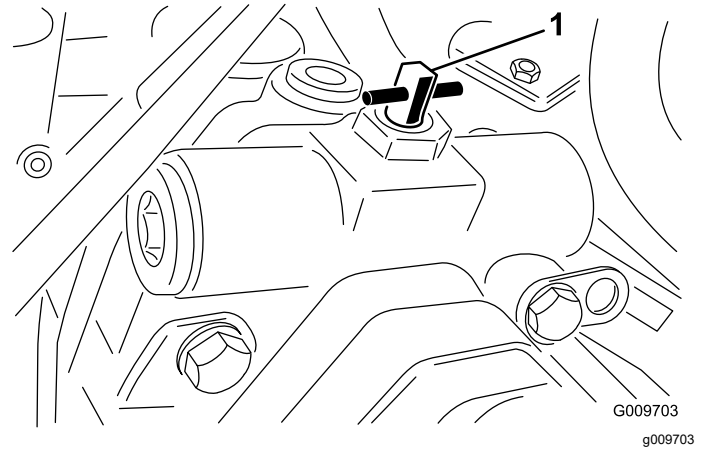

Figure 40
2. Rotate the bypass valve 90° (1/4 turn) in either direction to open and allow oil to bypass internally (Figure 40). Because fluid is bypassed, the machine can be slowly moved without